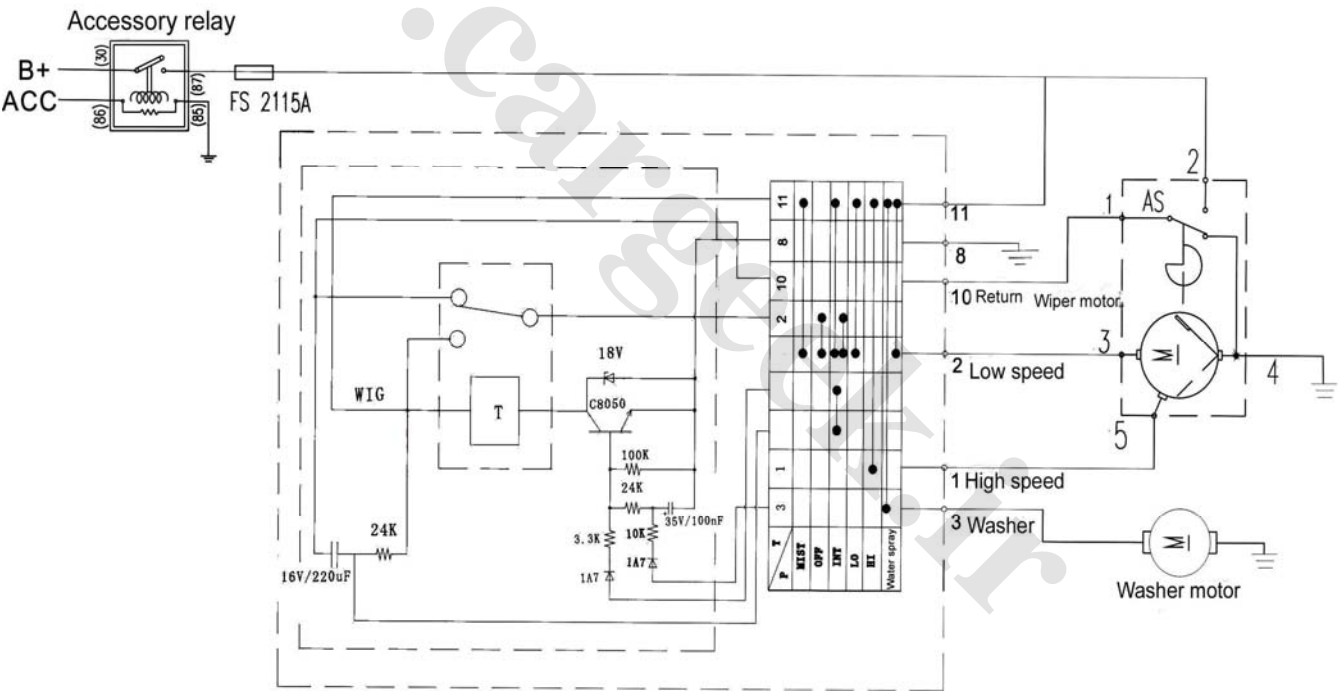

Fig. 4-100
2. Check circuit as shown in Fig. 4-100